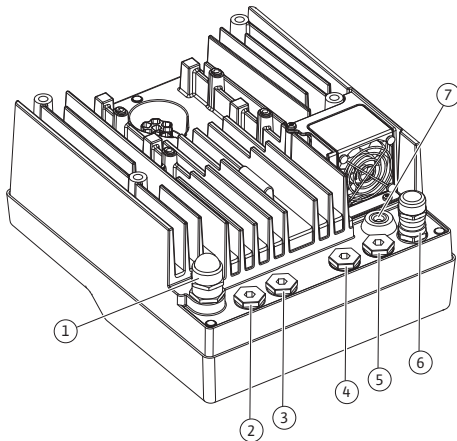
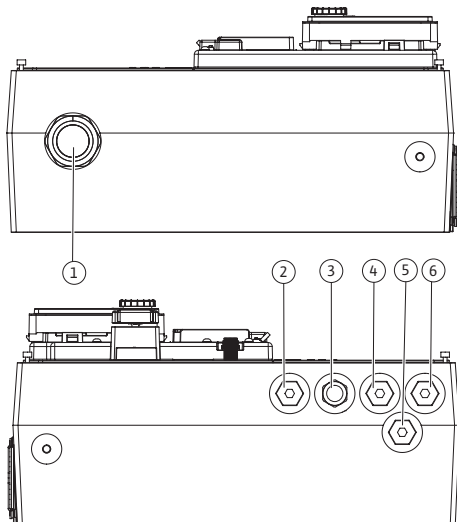

Fig. 21: Threaded cable glands / cable entries (0.37 kW to 7.5 kW)
Fig. 22: Threaded cable glands / cable entries (11 kW to 22 kW)
There are six cable entries to the terminal box on the electronic module (Fig. 21). The cable for the power supply of the electric fan on the electronic module is mounted at the factory.
There are five cable entries to the terminal box on one side of the electronic module (Fig. 22). A cable entry for the power supply is found on the other side.
Threaded cable glands including gaskets for the cable entries 2 to 5 (Fig. 21 and Fig. 22) are enclosed with the product as a kit.
4. Lead connection cable through the M25 threaded cable gland (Fig. 21, Item 1, for 0.37 kW to 7.5 kW).
Lead connection cable through the M40 threaded cable gland (Fig. 22, Item 4, for 11 kW to 22 kW).